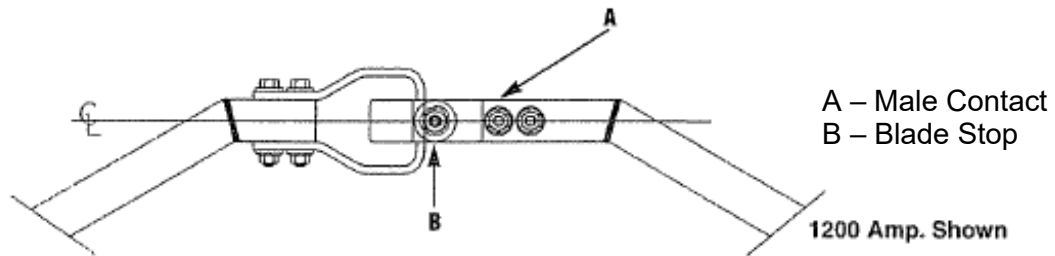

Figure 2: Contact Assembly
4. Test each switch pole for free operation and blade alignment. When closed, the blades should be in a straight line with the bearing stops touching (Figure 2). These stops can be adjusted if necessary.